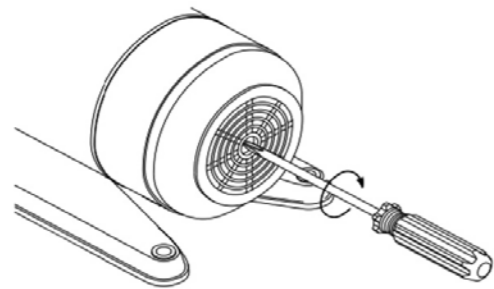

Figure 3
3. If the pump sticks after periods of inactivity, a screw driver slot is provided on the motor shaft end to free up the pump/motor. To do so, insert a screw driver in the slot in the motor shaft as shown in Fig 3 and turn to free the rotor. If this does not remedy the problem, the unit will need dismantling.